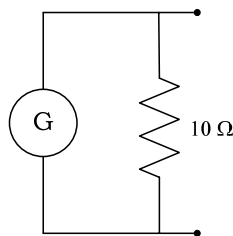

Figure 5.1: Constructed Ammeter circuit
1. Construct an ammeter using a galvanometer as shown in Figure 5.1
2. Suppose we want to measure a current greater than the full-scale deflection of the constructed ammeter (Figure 5.1). In this case, should the resistance in parallel with the galvanometer be increased or decreased? Explain in brief.